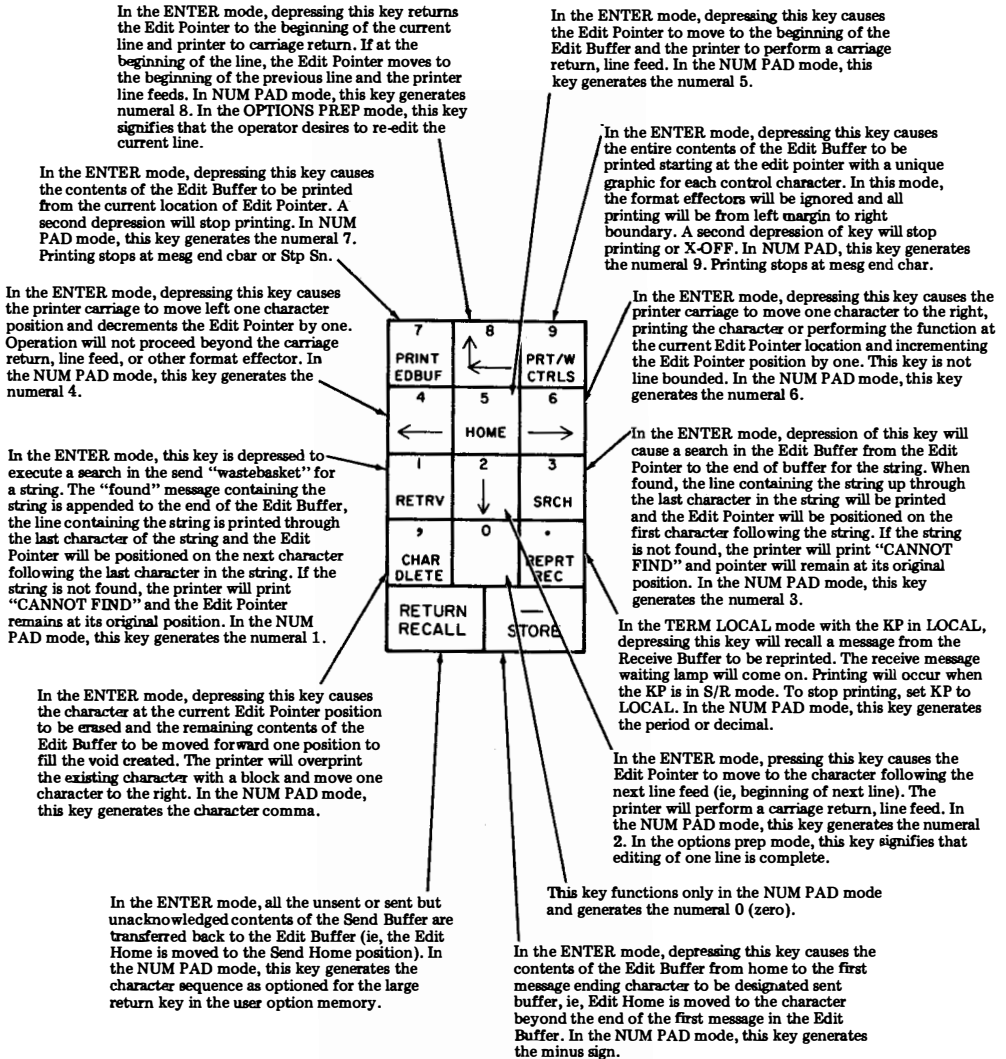

Fig. 5—Numeric/Edit Pad
3.04 The functions of the numeric/edit pad are briefly described in Fig. 5.